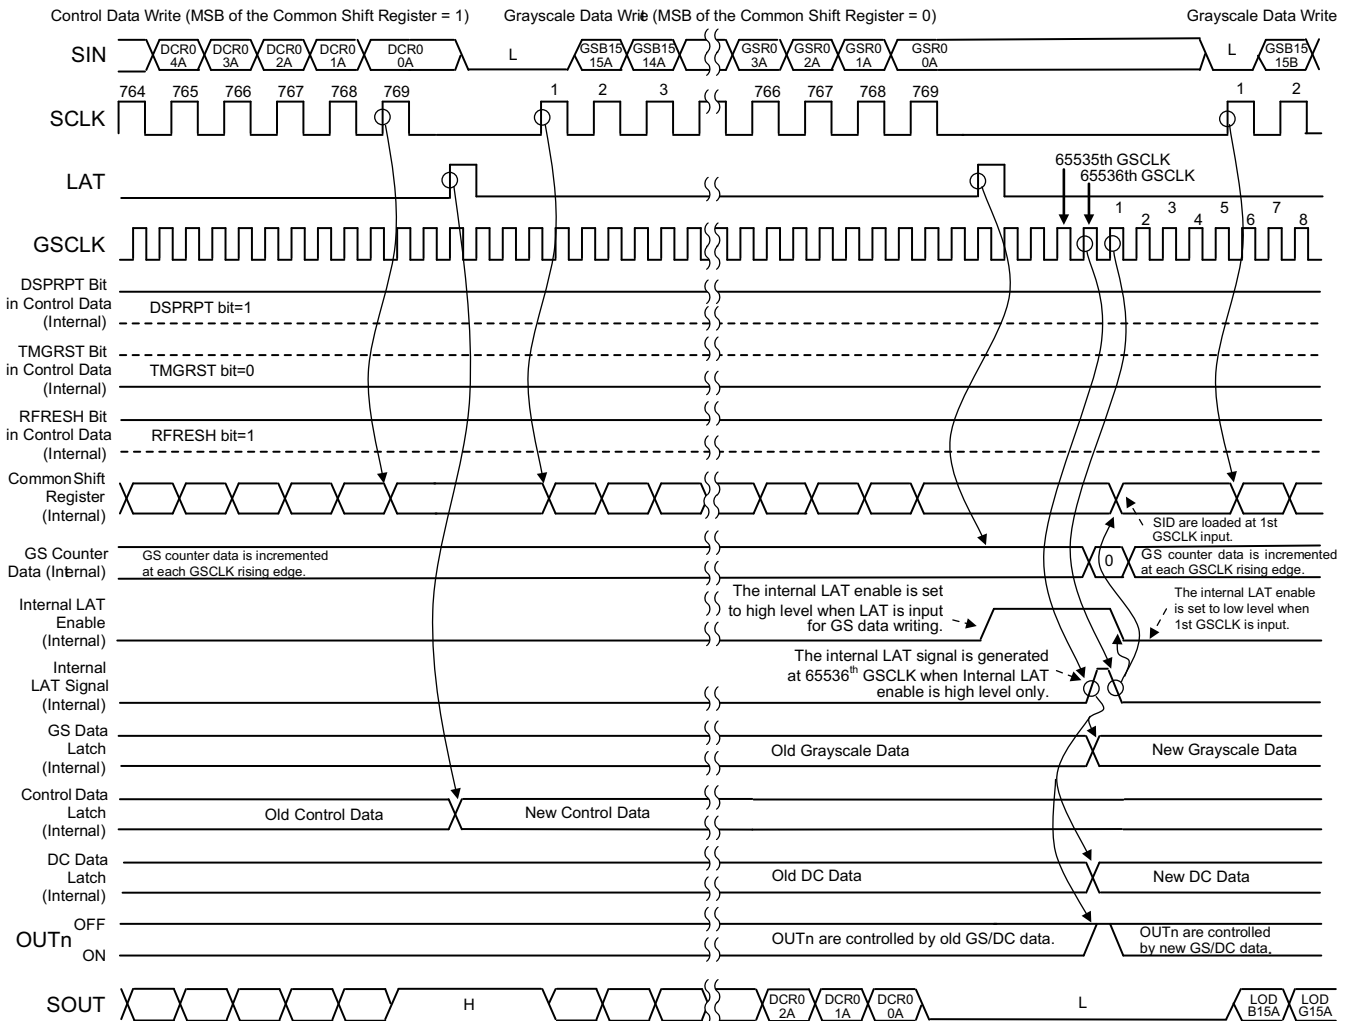
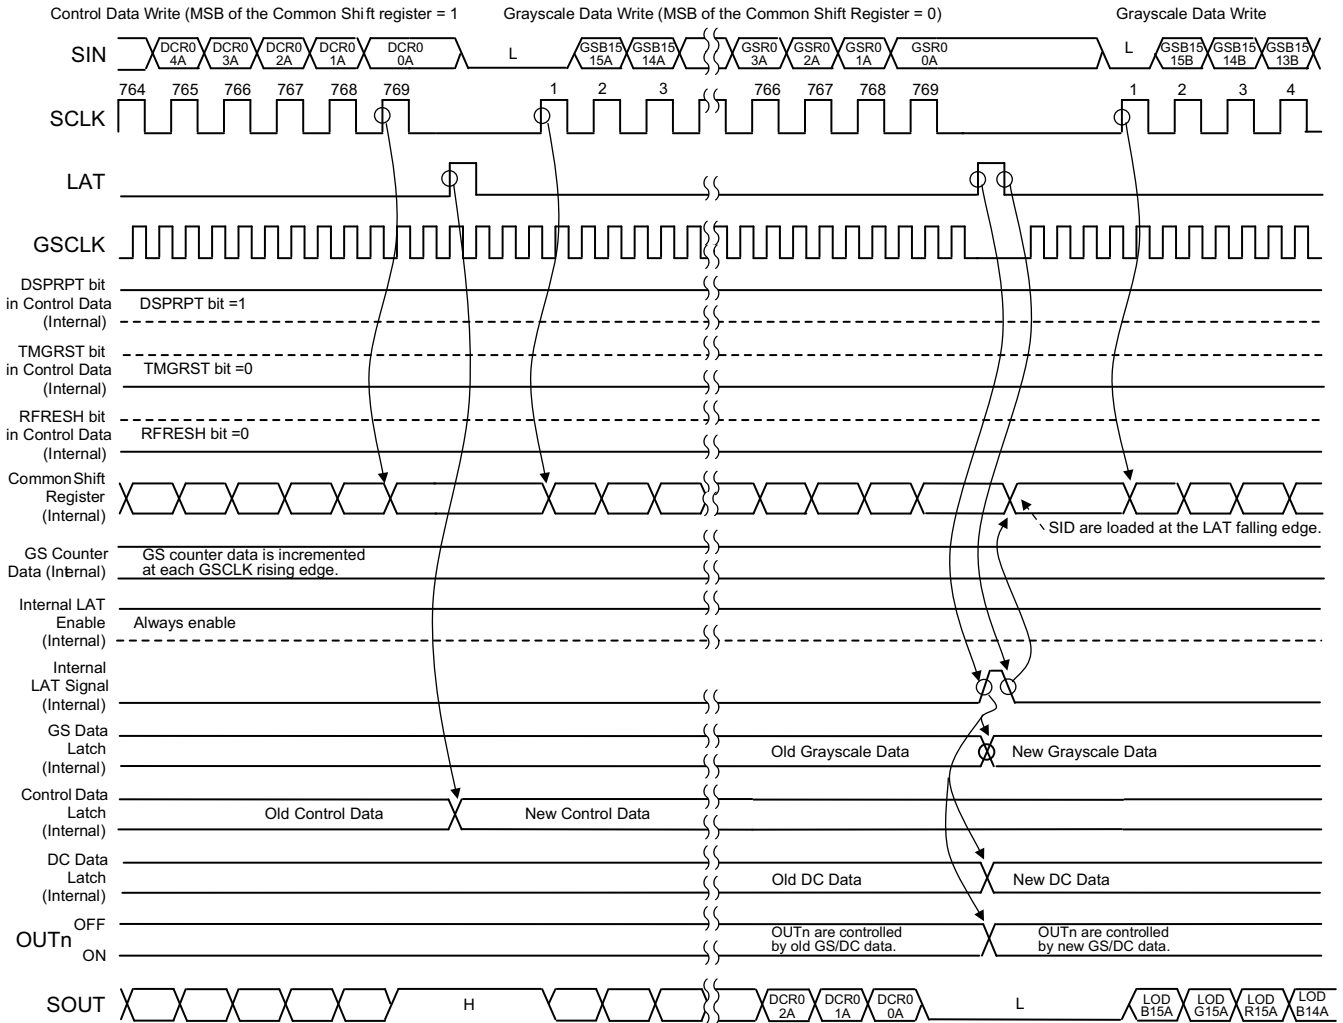

图 8-11. Auto Data Refresh Function 1 (DSPRPT = 1, TMGRST = 0, and RFRESH = 1)
图 8-12. Auto Data Refresh Function 2 (DSPRPT = 1, TMGRST = 0, and RFRESH = 0)
This function delays updating the grayscale (GS) and dot correction (DC) data until the end of one entire display period. If both DC data and GS data are written by the end of an entire display period, the input DC data are held in the control data latch and the GS data are held in the common shift register. Both DC and GS data are copied to the 336-bit DC data latch and 768-bit GS data latch at the end of an entire display period. The data latches are used for the next display period. GS data are directly copied from the common shift register to the GS data latch. Therefore, GS data must be written after the DC data are written. Furthermore, the GS data in the common shift resistor must not be changed until all data are copied to the GS data latch. 图 8-11 and 图 8-12 show timing diagrams for this function.